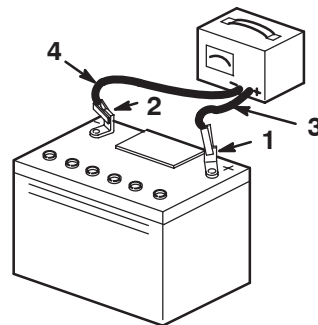

Figure 11
8. When the battery is fully charged, unplug the charger from the electrical outlet, then disconnect the charger leads from the battery posts (Fig. 11).